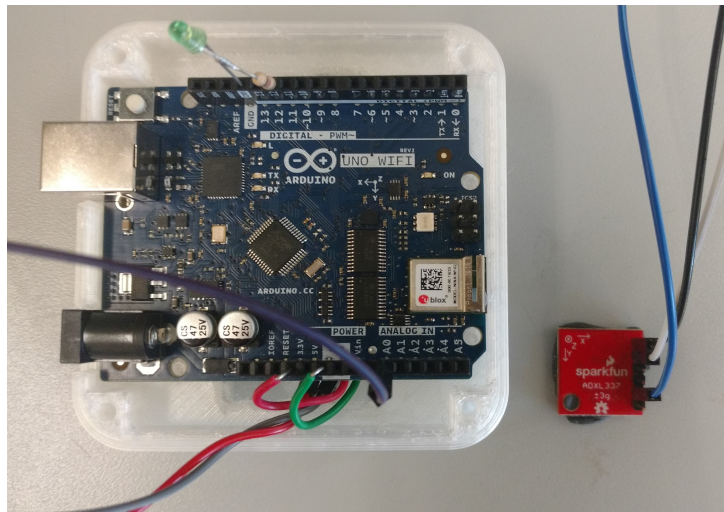

Figure 2: Detection System Arduino and Accelerometer with Plastic Enclosure
These components are described in further detail in the Design Document (Design Document Section 3). In addition to the physical prototype components, the files necessary for 3D printing the plastic box enclosure (2) are provided to the client. This allows for reproduction of the prototype, as the plastic box enclosure is custom made for the system. Figure 2 displays the Arduino Uno WiFi Rev2, the plastic box enclosure, the ADXL337, and the insulated wires of the prototype.